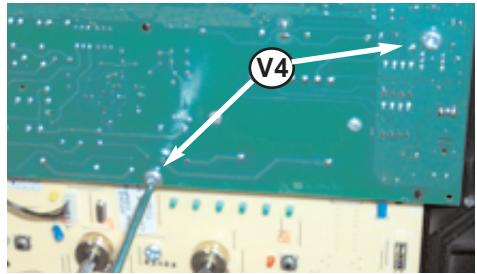

Fig. 98
7. Remove the two screws “**V4**” (see Fig. 98) on the PCB, unplug the electrical connections